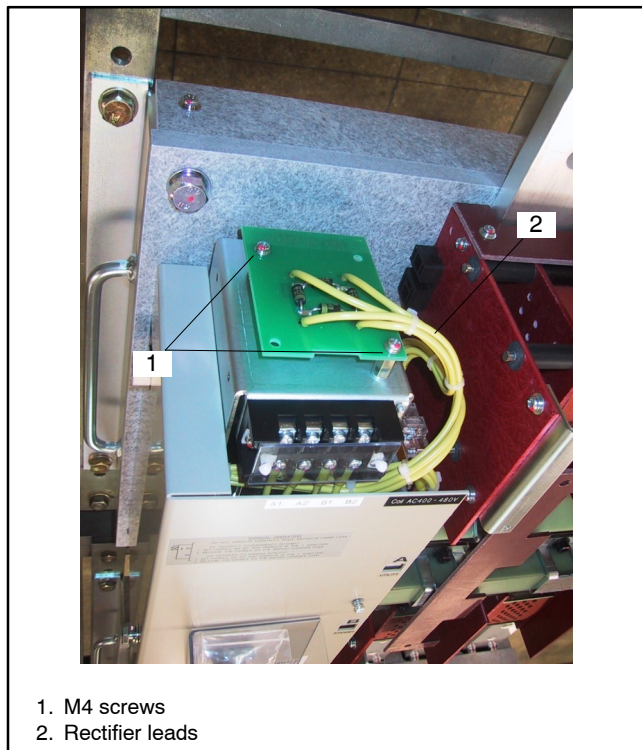

Figure 9-4 Rectifier Circuit Board
4. Remove the M4 screws securing the circuit board. See Figure 9-4.